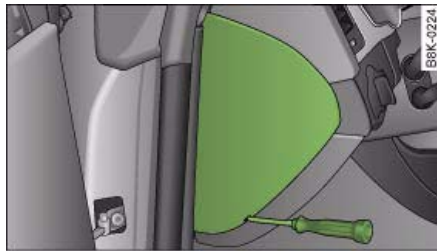

Fig. 283 Left side of dash panel: Fuse cover
- Remove the fuse box cover ⇒ fig. 283.